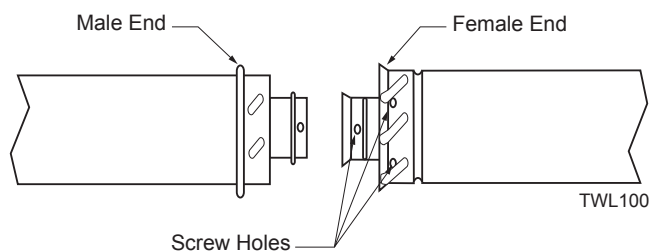

Figure 14 -
To join twist lock pipes together, simply align the beads of the male end with the grooves of the female end, twisting the pipe until the flange on the female end contacts external flange on the male end. It is recommended that you secure the joints with three (3) sheet metal screws, however, this is not mandatory with twist lock pipe. *Figure 14*